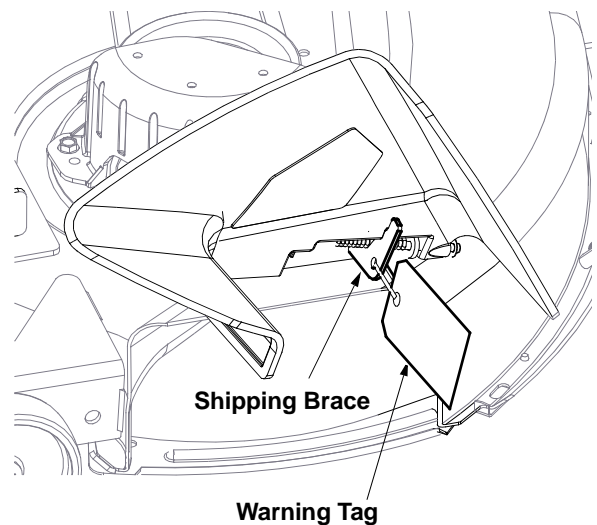

Figure 4
1. Locate the shipping brace and accompanying warning tag on the right side of the mower, between discharge chute and cutting deck. See Figure 4.